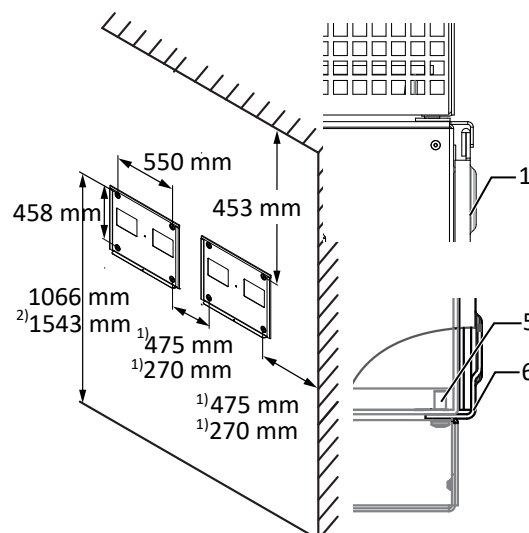

Fig. 17: Wall mounting
- Minimum clearances to be observed during installation: [See figure 17 ► Page 20]
2. Fit the device onto the upper mount by means of the mounting bracket. Fit the device onto the lower mounting bracket in full so that the device sits flush with its rear side on the mount ([See figure 17 [► Page 20]]).